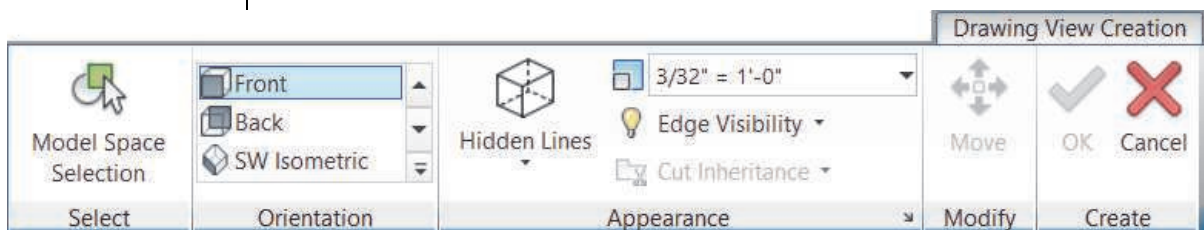

Figure 11–29
- In the *Drawing View Creation* tab shown in Figure 11–29, make any **Orientation** or **Appearance** modifications.